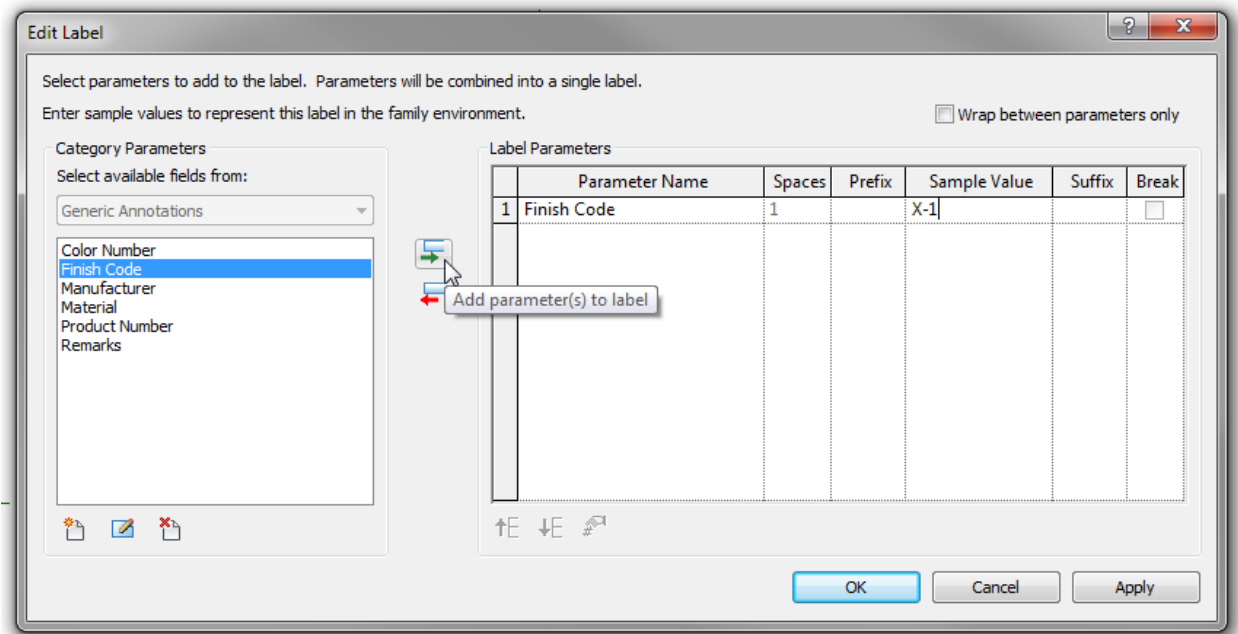

Figure 6
6. Select Finish Code and then click the Add Parameter to Label icon in the middle. Change the Sample Value to something like X-1 and then click OK (see Figure 6).